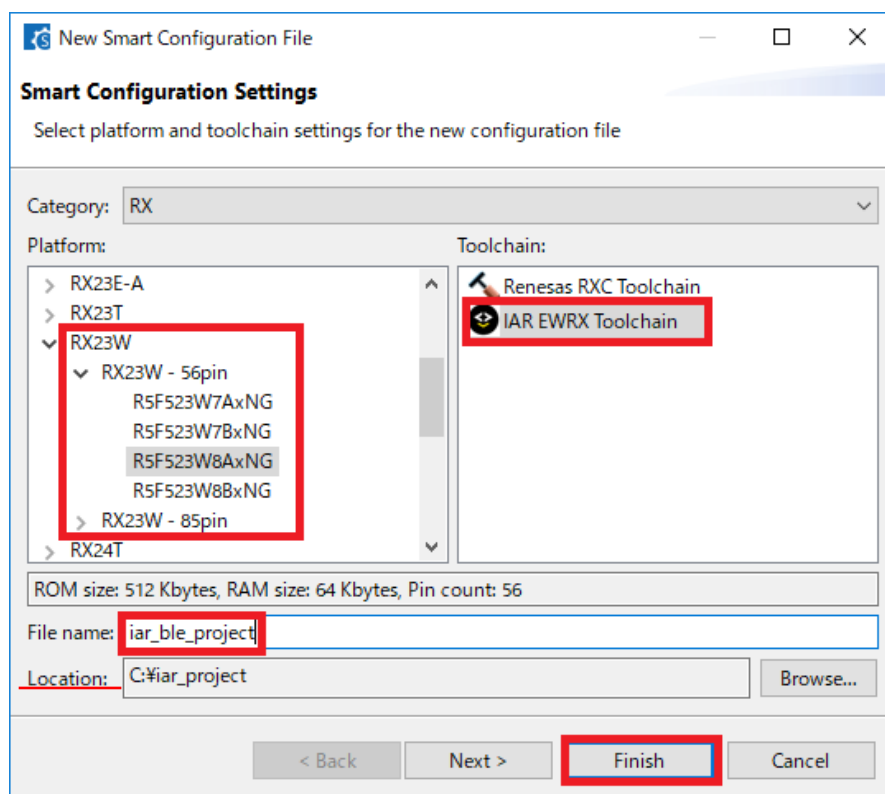

Figure 4.39 : RX Smart Configurator New Project settings
- Copy the “iccrx” directory included in \src\smc\_gen\r\_bsp\mcu\rx23w\register\_access which is in the RX Smart Configurator project location directory (refer Figure 4.39) to \src\smc\_gen\r\_bsp\mcu\rx23w\register\_access which is generated according to 4.9.1.
(2) Copy from the FITDemos